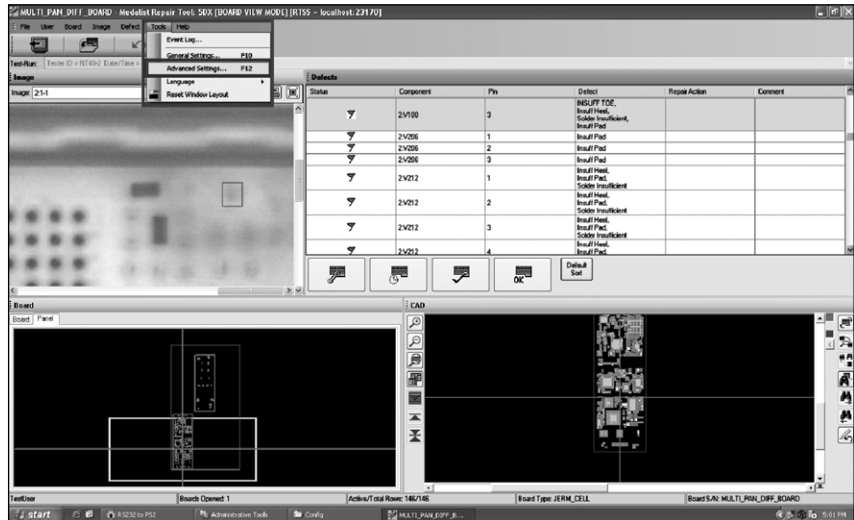

Figure 1. Interface screen shot relating to step 1
1. In the RT4.0 User Interface, go to **Tools > Advanced Settings**, see Figure 1.